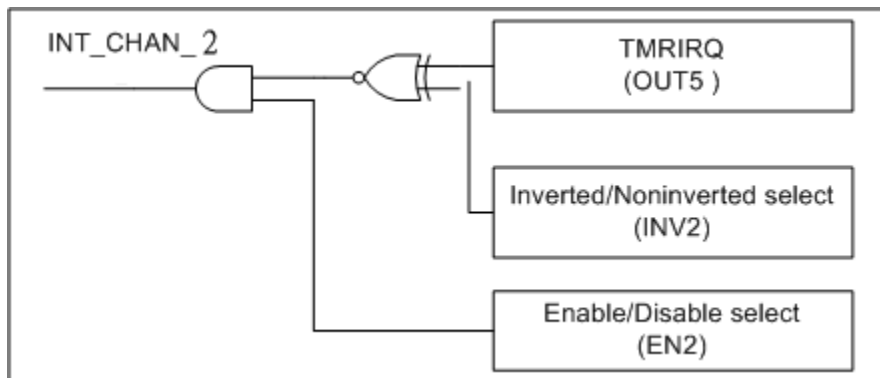

Figure 2.9
Figure 2.9 illustrates the control method of timer interrupt. Note that the signal source come from OUT5. The INV2 can be used to invert/non-invert the Trigger signal source and EN2 is used to disable/enable the timer interrupt (Refer to Sec.2.5 for the source of interrupt signal). **Note that the INT_CHAN_2 must be fixed in low level state normally and generated a high_pulse to interrupt the PC.** Because Counter4 and Counter5 are cascaded together, it can be used as 32-bit timer base on 4MHz clock source.
1. The EN2 can be used to enable/disable the INT_CHAN_2 as follows: (refer to Figure 2.9 and Sec. 3.1.4)
2. The INV2 can be used to invert/non-invert the TMRIRQ as follow2: (Refer to Figure 2.9 and Sec. 3.1.6)